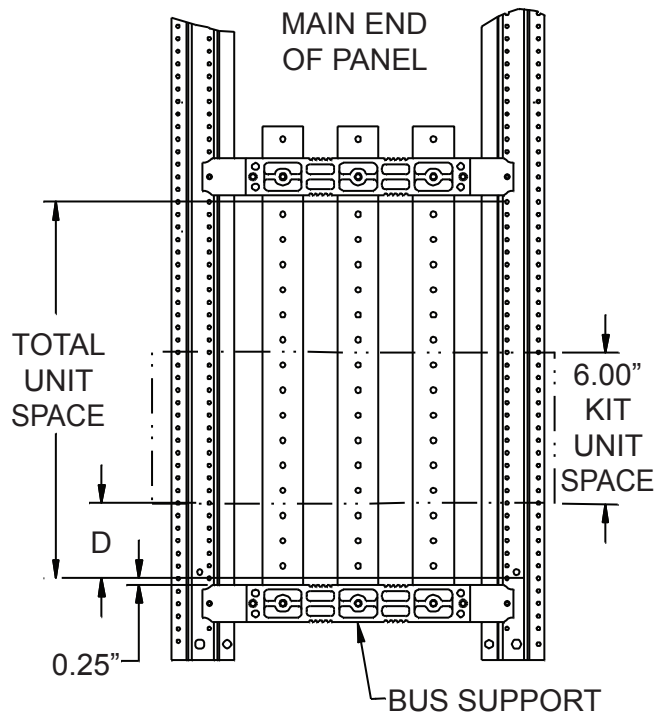

Figure 1
3. Refer to Figure 1: For taking unit space measurements, use the bus support located farthest from the main lug or device end of the panel. Note that unit space starts 0.25" from the inner surface of the bus support.
4. This kit requires 6" of unit space. Determine the location where the kit is to be installed. The kit locating dimension **D** in Figure 1 must be a multiple of 3" (0", 3", 6", 9", etc.). Add 0.25" to dimension **D** when taking measurements from the bus support (0.25", 3.25", 6.25", 9.25", etc.).